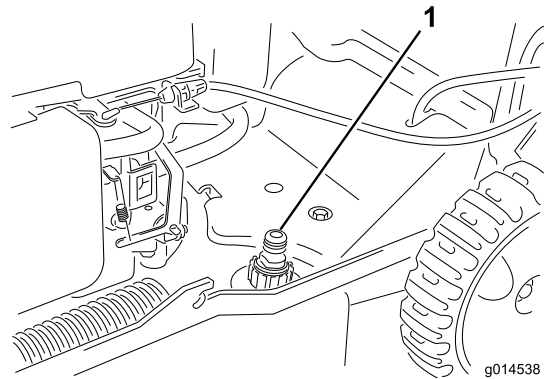

Figure 20
3. Attach a garden hose that is connected to a water supply to the washout port (Figure 20).